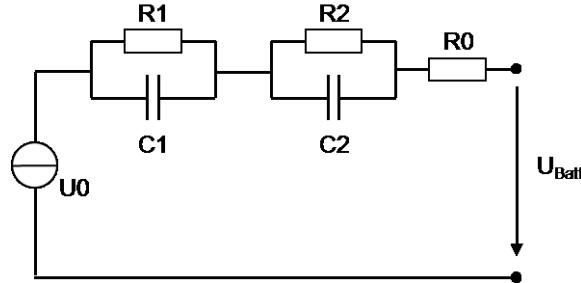

Figure 5.94: Chen battery equivalent circuit
The battery's equivalent circuit consists of a ideal voltage source, two RC-circuits and a single resistance that are connected in series as shown in Figure 5.94.
| Idle voltage (V)            | This parameter is the basic voltage of the ideal voltage source ( $U_{oc}$ ) as shown in <a href="#">Figure 5.94</a> without any influence of SOC. |
| Resistance R0/R1/R2 (Ohm)   | Here you can set the resistances $R_0$ , $R_1$ and $R_2$ of the equivalent circuit shown in <a href="#">Figure 5.94</a> .                          |
Capacity C1/C2 (F)	Here you can set the capacities $C_1$ and $C_2$ of the equivalent circuit shown in <a href="#">Figure 5.94</a> .